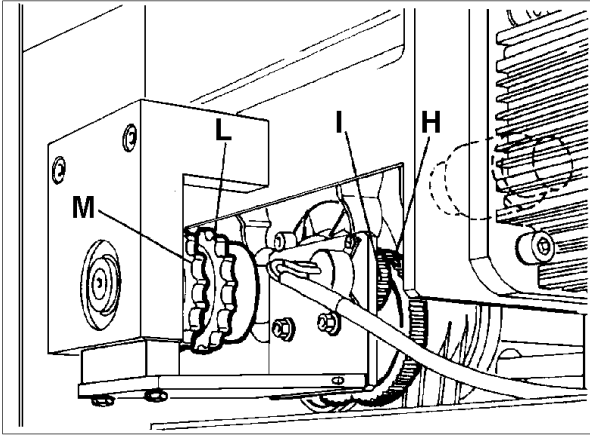

fig.7.12
c.7) Grease the toothed wheels (H), (I), see fig.7.12.